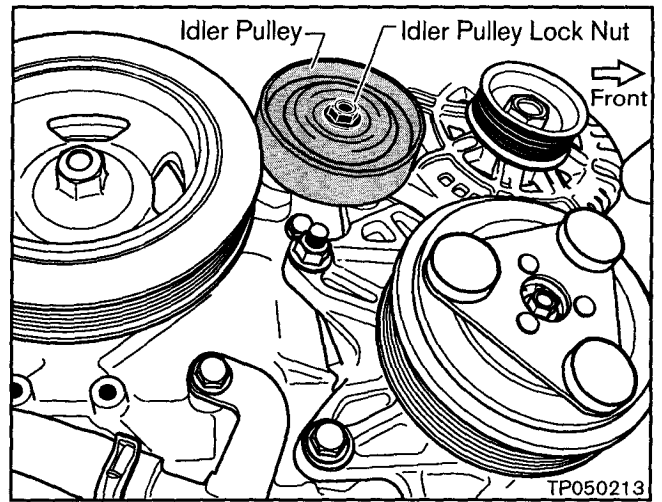

Figure 8
6. Remove the Idler Pulley Lock Nut, and then remove the Idler Pulley (see Figure 8).